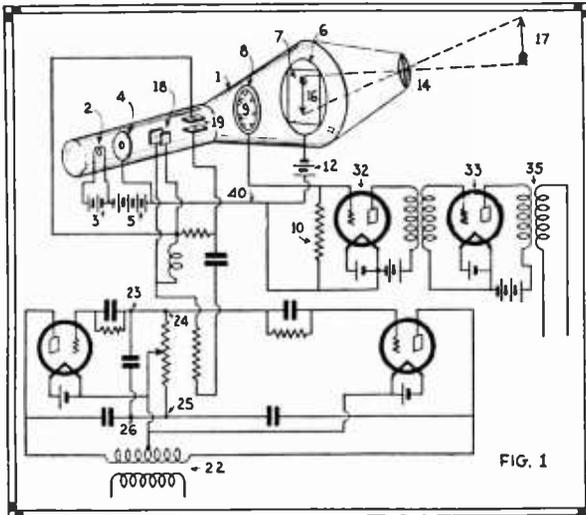

FIG. 1
J. J. Thomson—he of early electronic fame—was first to describe the effect of discharging a condenser through a coil, in which there had been placed a partially-exhausted glass container; this was in 1891. The general arrangement is shown in Fig. 1, where a simple globe
C. A. SABBAB, of Schenectady, N. Y., has been able to attain encouraging results in the field of television with a Braun tube. The transmitting arrangement is shown in Fig. 1. The Braun tube is marked 1; the cathode 2, is heated by a battery 3; the anode 4 has the form of a diaphragm. The pencil of cathode rays which passes through the diaphragm is deflected in the usual manner, by means of two pairs of plates, 18 and 19, set at right angles; the scanning takes place in a spiral order.
In the flying-spot system—sometimes termed "indirect-pickup"—the subject is scanned by a moving spot of light and a photo-cell or bank of cells is used to pickup the reflected light. The optical system is skeletonized in Fig. 1, where the essential portions of the system are given. The light-source may be a D.C. arc or a high-intensity filament-type lamp—depending upon the voltage supply available and the type of cells employed in the studio. Light from this source is concentrated by means of a reflector and a condenser-lens system, as shown, and in such a manner as to just cover an aperture having the same size as the image subtended by the first and last apertures in a highly accurate scanning disc. Since we will find the motion-picture lens most readily obtainable for our purpose, we might just as well assume the use of motion-picture apparatus throughout. This will permit our assuming the use of projection lenses of the class found in theater supply houses in every large city.